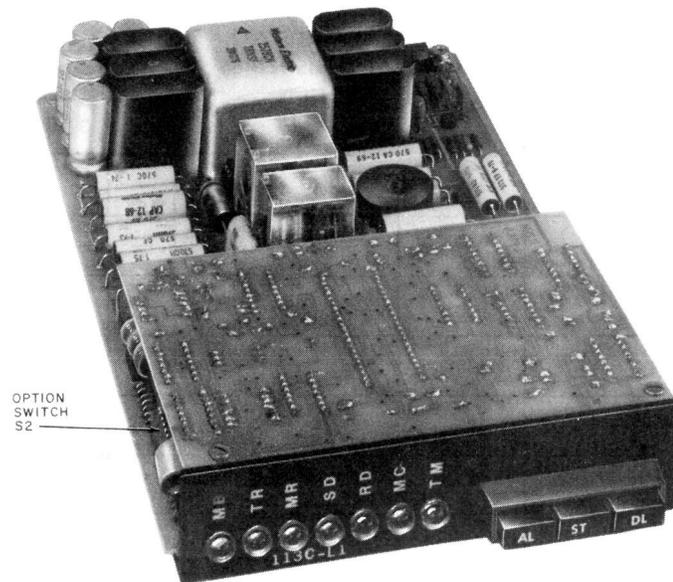

Fig. 1—DS 113CR-L1A
2.01 Data set 113CR-L1A must be removed from the mounting to be accessible (Fig. 1).
3.04 Data set options are determined by the switch settings of S1 (on data mounting) and S2 (on circuit pack). See Fig. 1 and 2. A description of the options shown in Table A follows.